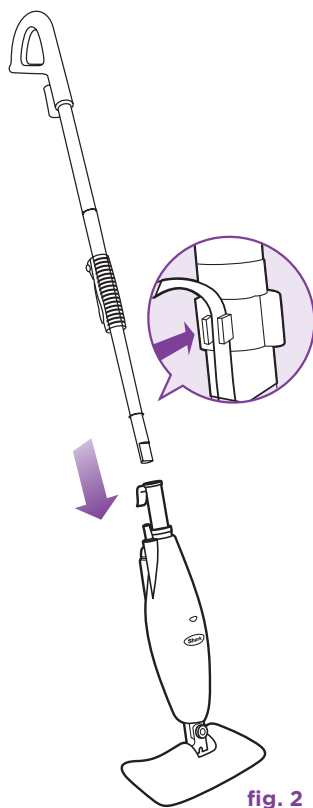

fig. 2
- 3 Insert the assembled handle piece into the steam mop base. Push the tube base together until you hear a click. (fig. 2)